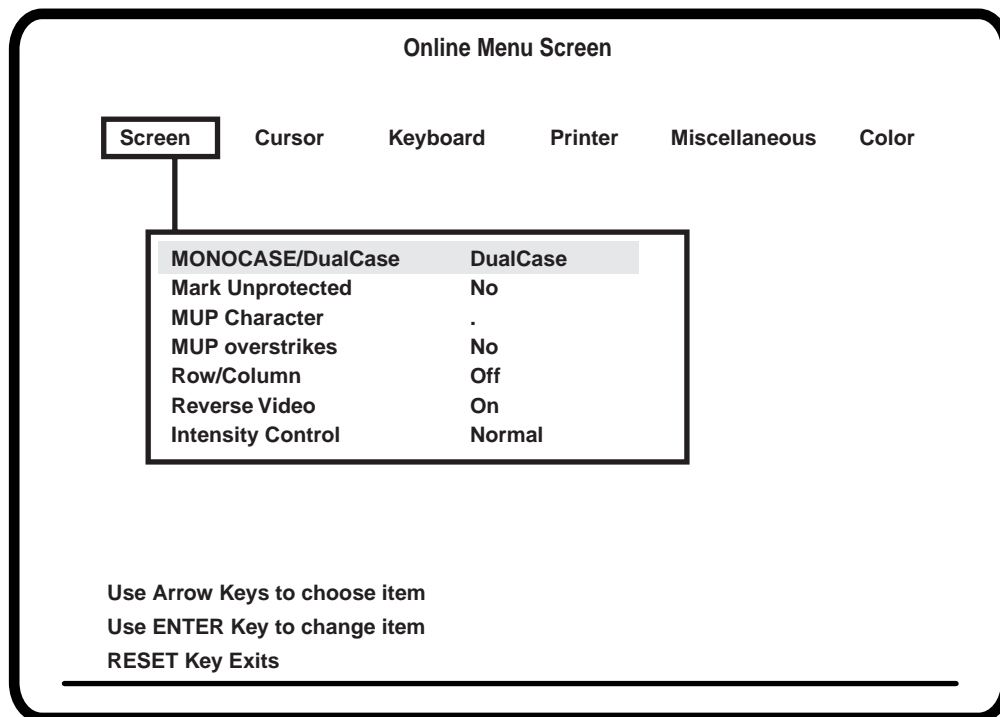

Figure 3-11. Online Screen Menu
- 2) If password protection is enabled (see Page 7-5), you are prompted to enter the password. Enter the password and press the Enter key. The Online Screen menu is displayed (Figure 3-11 on Page 3-28).
All of the options in Figure 3-11, below, may not be displayed on your screen. The options available to you depend on whether you are using a color or monochrome monitor.